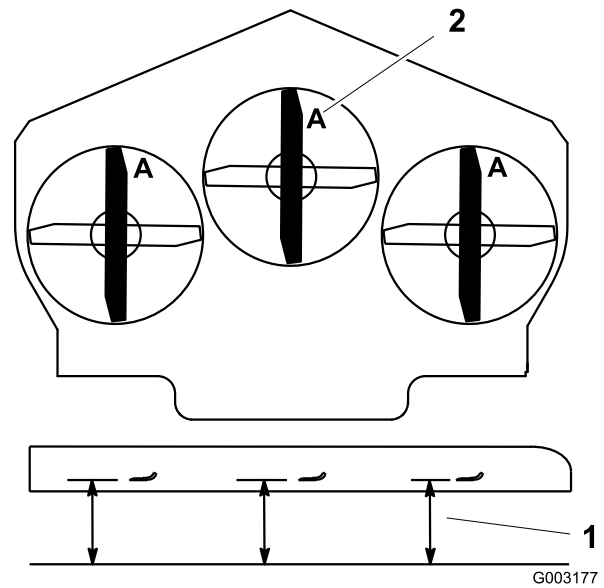

Figure 79
- Rotate the blades until the ends face forward and backward (Figure 79). Measure from a level surface to the cutting edge, position A, of the blades (Figure 79). Note this dimension.